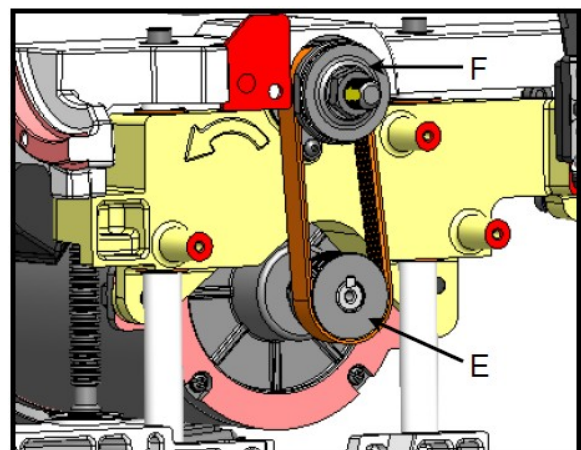

Figure 46
5. Roll the belt off of the arbor pulley (F) and the motor pulley (E), **Figure 46**. (For easier removal turn the belt sideways and slide downwards)